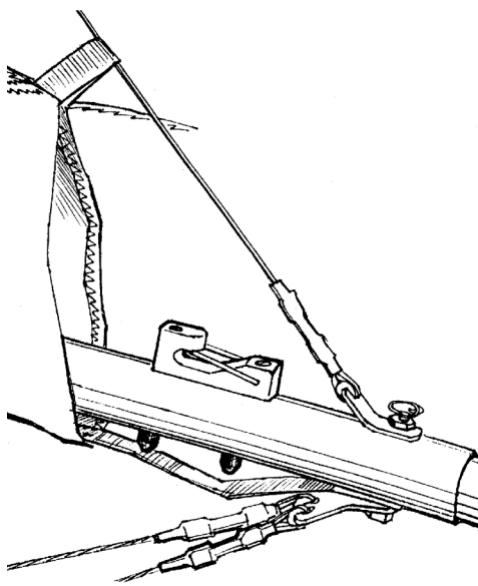

Fig. 17
2.1.18. Pass top rear wire through the tape loop near the connection of the keel pocket and the sail. Secure the tang of the bottom rear wires, the keel mount webbing (from the underside) and the tang of the top rear wire (from the upper side) using the bolt fixed with the nut and the safety ring (Fig. 17).